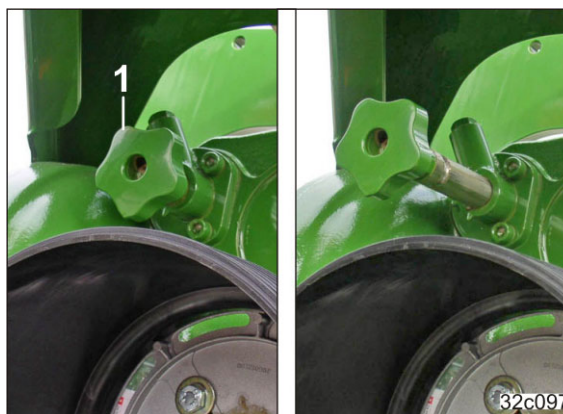

Fig. 94
1. The gear lever (Fig. 94/1) serves to switch gears.